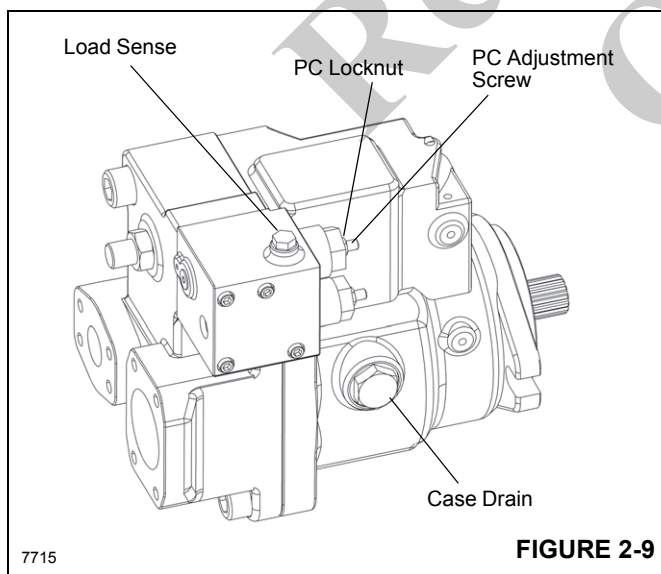

FIGURE 2-9
(Figure 2-9). Loosen M8 locknut and use a 4mm allen wrench to adjust the setting. Turning clockwise increases the setting and each turn gains 100 bar (1450 psi).
2. Start the engine and activate hoist joystick. Adjust pressure compensator (PC) Adjusting Valve (Figure 2-9) counter clockwise to attain correct pressure. Refer to Table 2-2 for correct Maximum Pump Pressure reading.